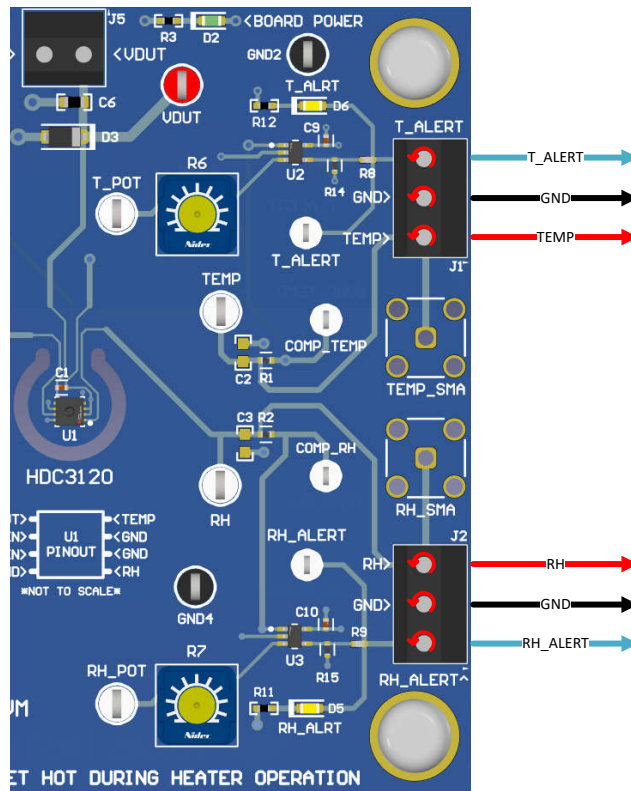

Figure 3-4. HDC3120EVM Outputs
1. Connect the TEMP output from the HDC3120EVM to the AIN0 input on the BOOSTXL-ADS7142-Q1 EVM BoosterPack™ using a jumper wire as illustrated in Figure 3-4.